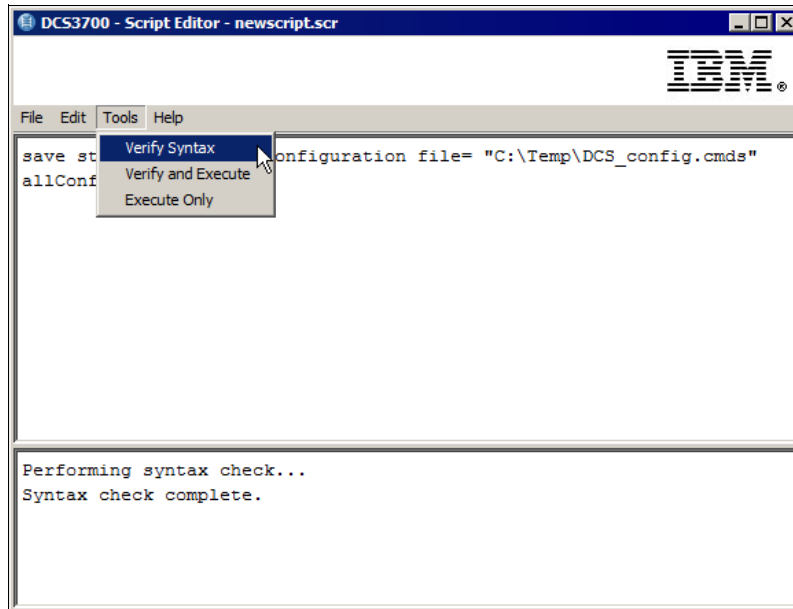

Figure 15-3 Tools menu - Verify Syntax
- To save and retrieve script files that you create, click **File** → **Save Script** and **File** → **Load Script**. The Tools menu includes options to verify the syntax and run the scripts, as shown in Figure 15-3.